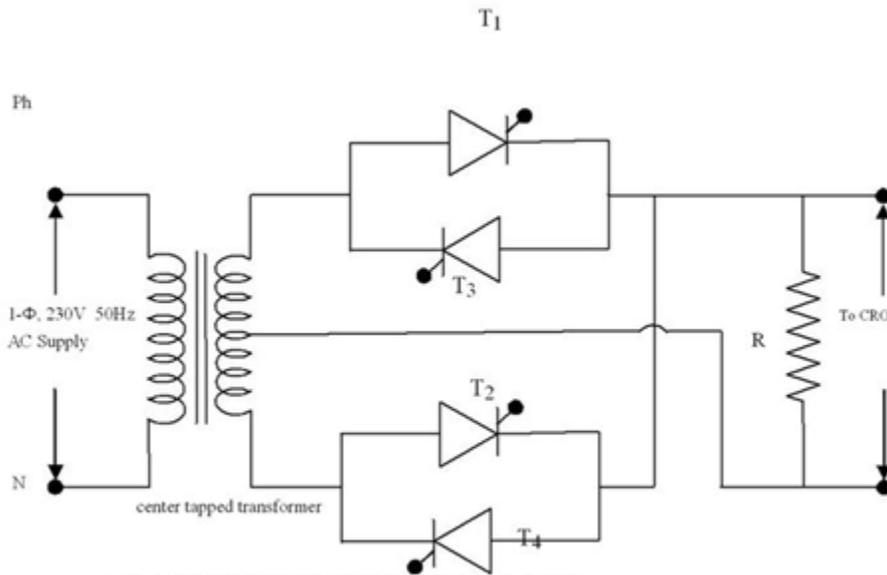

Fig1-Single phase cyclo converter with R-load
1. Connect the circuit as shown in figure.1